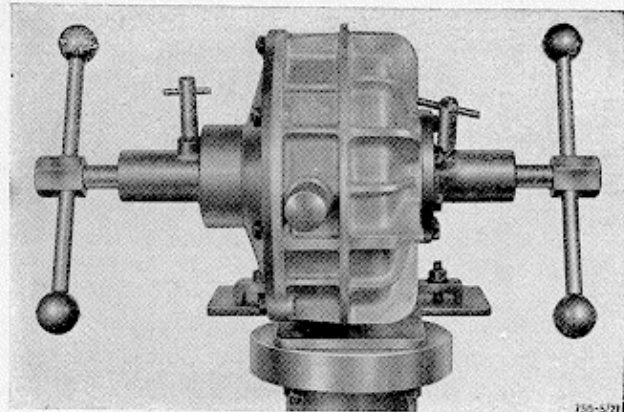

Fig. 27 - Fixture 6123.27.025 mounted on the differential housing
- mount the part of the tool 6123.27.025 which is fitted to the right-hand side of the differential housing (Fig. 27) ;